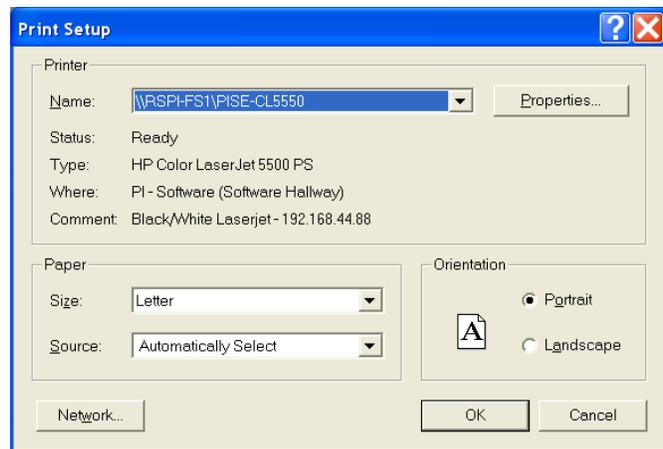

Figure 116. Print Setup dialog
1. Open the file you want to print. Make sure that window is the active one. From the **File** menu, open the **Print Setup** dialog (Figure 116).